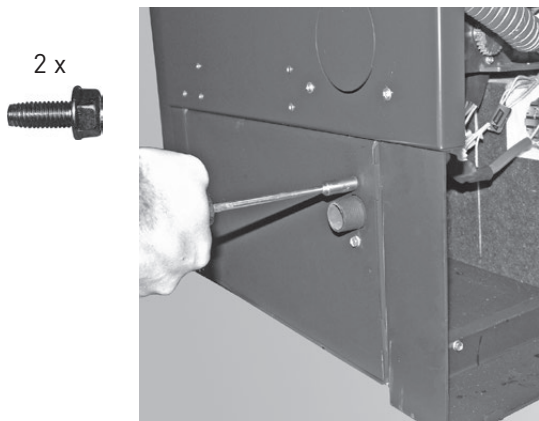

Fig. 23 Securing return pipe with 2 screws
- Secure return pipe (part 4) to rear wall with 2 screws (part 3) – Fig. 23.